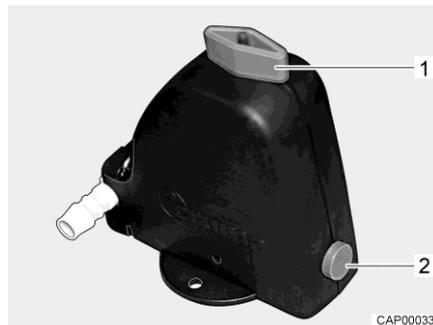

Fig. 263 Safety/drainage valve (Truma)
- Close the safety/drainage valve (Truma). Turn the knob (Fig. 263,1) perpendicular to the safety/drainage valve and push the push button (Fig. 263,2) in.